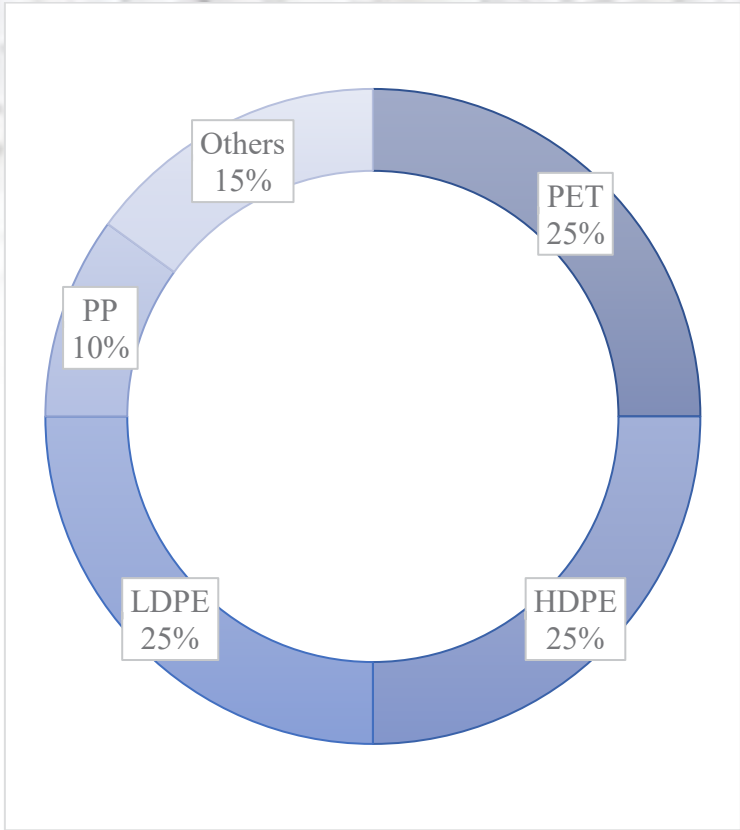

Figure 1. Breakdown of polymers used in packaging and food service items.
The mechanical recycling of plastics is one tool to improve the circularity of plastics. It is estimated that less than 10% of plastics are recycled globally. To impact this number, it is helpful to look to the largest markets and types of polymers used. The United States Environmental Protection Agency (EPA) estimates that 40% of plastics go into packaging, and four polymers make up 85% of packaging and food service items: polyester terephthalate (PET), high-density polyethylene (HDPE), low density and liner low density polyethylene (LDPE, LLDPE), and polypropylene (PP)⁴. Figure 1 illustrates the breakdown of the use of these polymers.